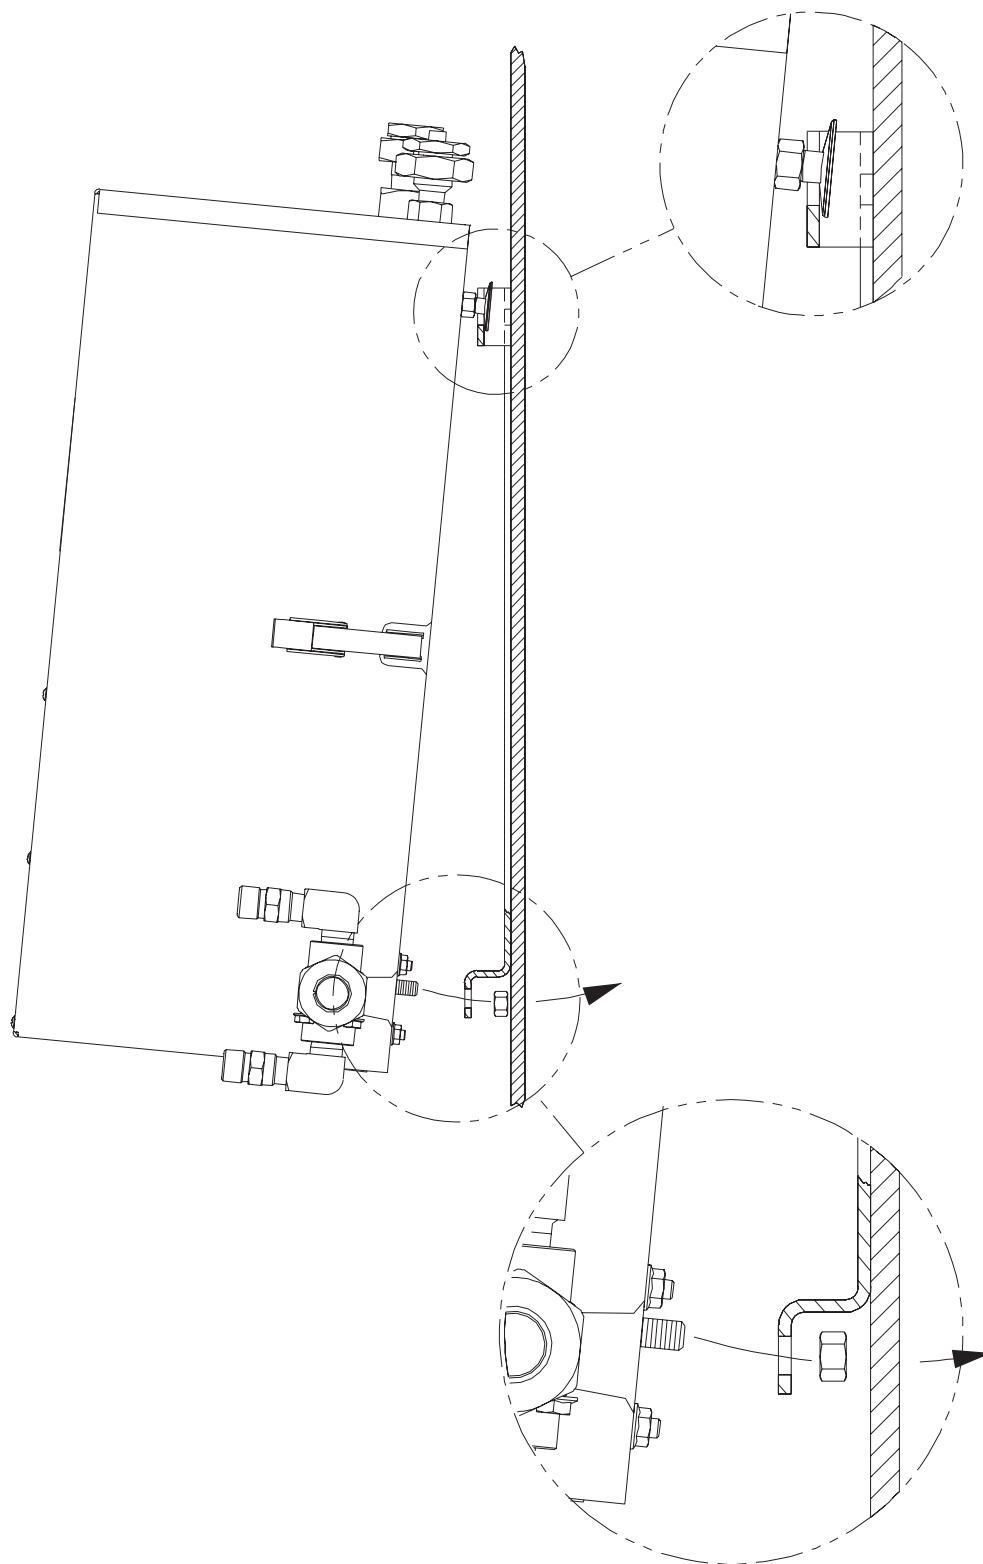

Figure 3
6. Hang manifold control panel on mounting bracket. Top two control panel mounting bolts will slide into slots of bracket. Bottom of manifold control panel should be angled away from bracket until top two bolts have been inserted as shown in Figure 3. Bottom of control panel can then be positioned toward bracket so 3/8" mounting stud passes through lower hole in mounting bracket. Install and tighten 3/8" nut removed in step 2.
9. Hang manifold control panel on mounting bracket. Top two control panel mounting bolts will slide into the slots of bracket. Bottom of control panel should be angled away from bracket until top two bolts have been inserted as shown in Figure 3. Bottom of manifold control panel can then be positioned toward bracket so 3/8" mounting stud passes through lower hole in mounting bracket. Install and tighten 3/8" nut removed in step 2.